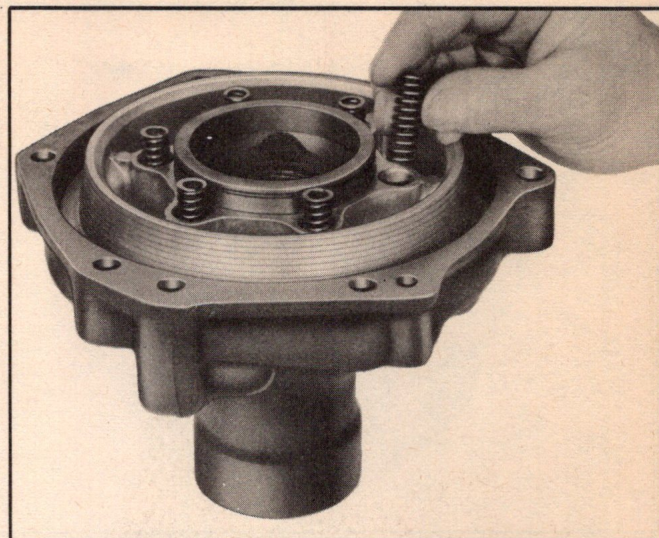

Fig. 149—Removing Coil Release Springs
9. Remove the six coil release springs (Fig. 149).